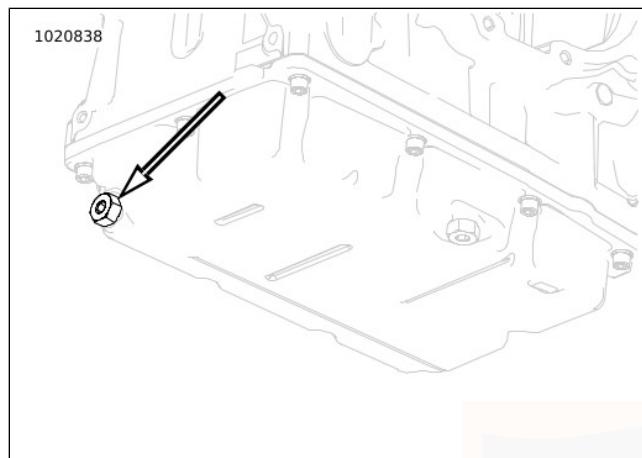

Figure 52. Engine Oil Drain Plug
3. See Figure 52. Remove the oil drain plug (2) and O-ring. Allow oil to drain completely.